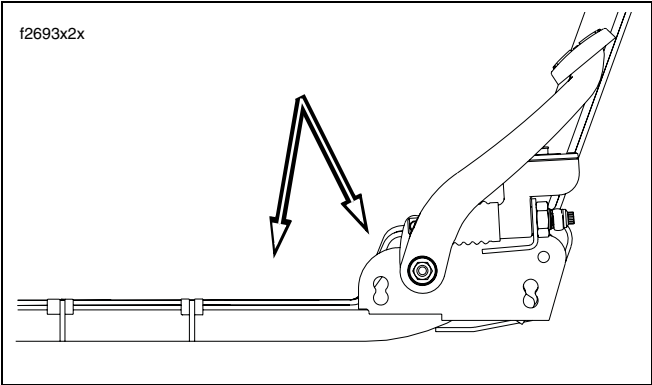

Figure 1. Brake Lines 40632-05/06 to Clutch Cable
- 3. See Figure 1 and Table 2. Inspect three brake lines (Part No. 40632-05/06) leading from the brake manifold and rear master cylinder to the ABS module. Pay careful attention to the following areas: